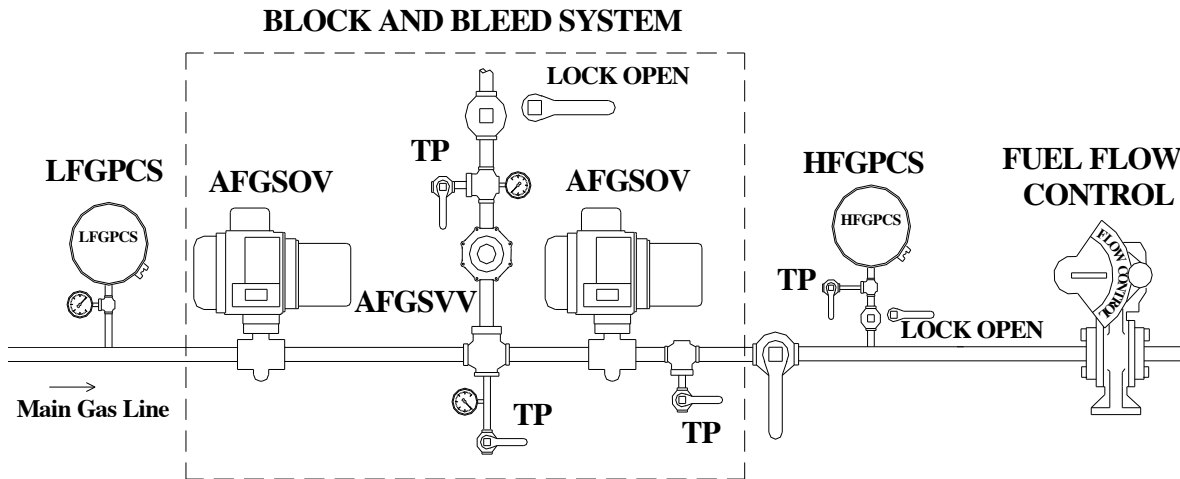

Figure 1.3 Leak Checking Automatic Shutoff Valves
In order to easily test for leaks in the block valves a test port (TP) and pressure gage must be available both in the line between the valves and downstream of the second valve. Also in the case of gas, a lockable manual valve downstream of the solenoid bleed vent valve is required. A port and pressure gage in the line between the solenoid valve and lockable manual valve is also needed. Note, there are two test ports (TP) for determining normal operating pressures and one test port (TP) for testing the isolated interlock. This arrangement is schematically shown for natural gas in Figure 1.3 and Figure 4.4 for oil fuel.